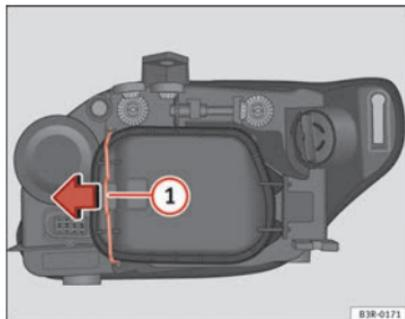

Fig. 201 Side light bulb (inside of vehicle)
- Move the brace ⇒ Fig. 201 ① in the direction of the arrow and remove the rigid cover, separating the brace side and then removing the two tabs from the other end of the cover.